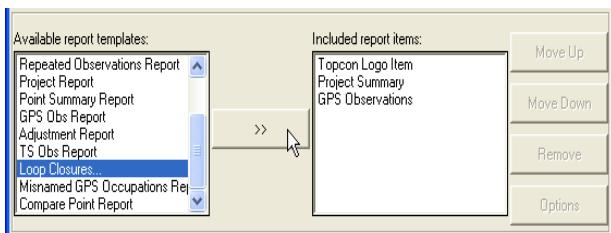

Figure 7-30. Include Items in Report
- Select the desired item in the *Available report templates* list and click the move right button (>>) to move the item to the *Included report items* list. Continue selecting and moving items until all desired items are included (Figure 7-30).